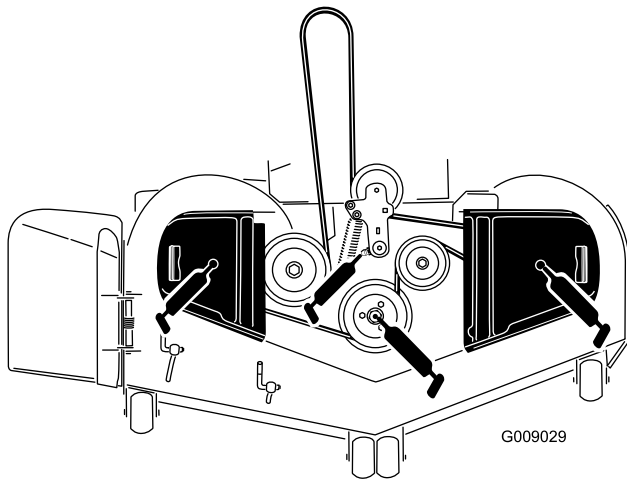

Figure 40
3. Grease the mower deck idler pulley pivot until grease come out the bottom (Figure 40).
4. Grease the three spindle bearings until grease comes out the lower seals (Figure 40).
5. Grease the drive belt idler arm (Figure 40).